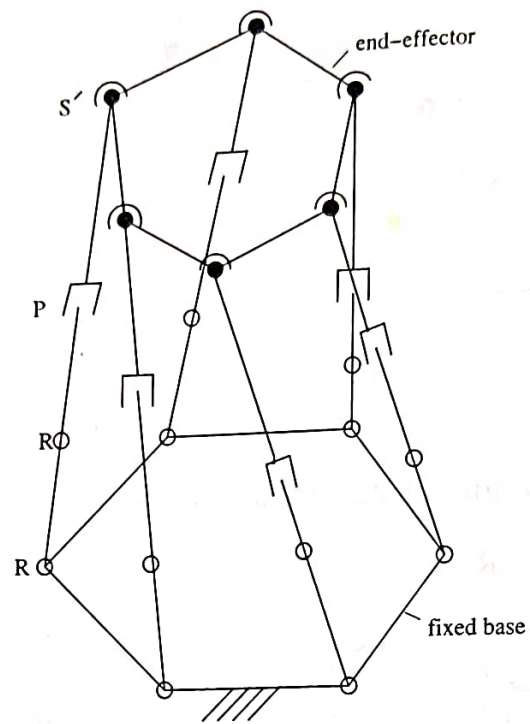

Figure 1.24: A spatial parallel manipulator.
18. Fig. 1.24 shows a spatial parallel manipulator. Determine its dof.